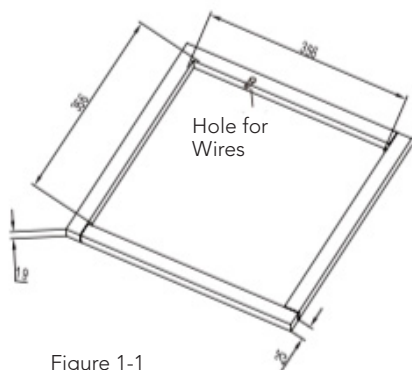

Figure 1-1
2. It must be capable of holding the roof outer surface and interior ceiling apart and supporting them, so that when the roof top air conditioner and ceiling assembly are bolted together, no collapsing occurs. A typical support frame is shown in Figure 1-1.